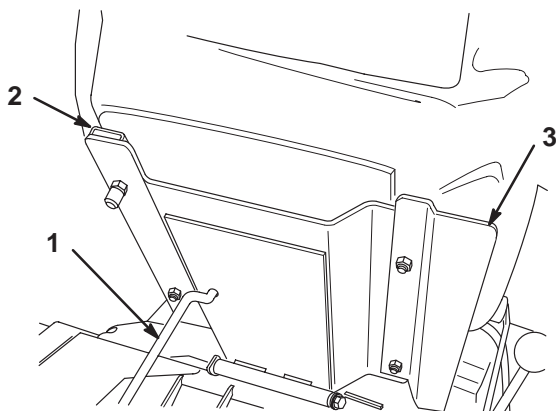

Figure 2
- Secure the seat, seat panel, and seat slides to the seat support with the locknuts (5/16 in.) (Fig. 2) supplied in the loose parts. Mount the seat panel on the right side, positioned as shown in Figure 2.